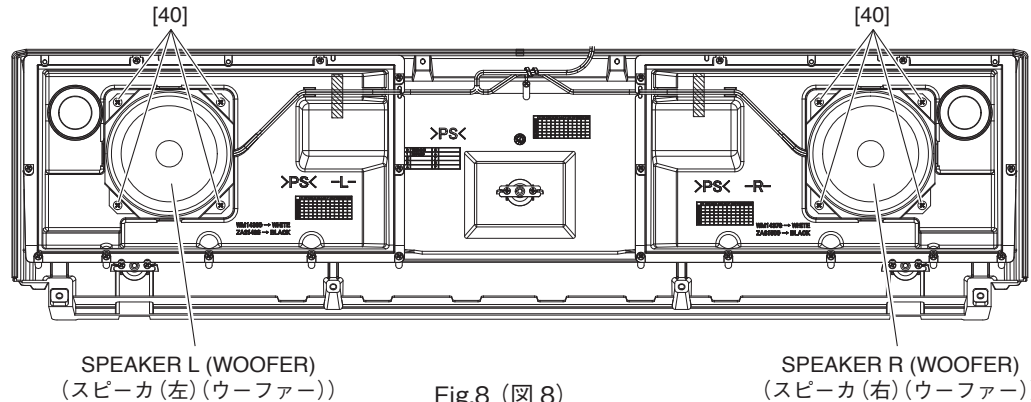

Fig.8 (図 8)
- 13-2 Remove the four (4) each screws marked [40] to the right and left. The speakers (woofers) to the right and left can then be removed. (Fig.8)
- 13-2 [40] のネジを左右 4 本ずつ外して、左右のスピーカ (ウーファー) をそれぞれ外します。(図 8)